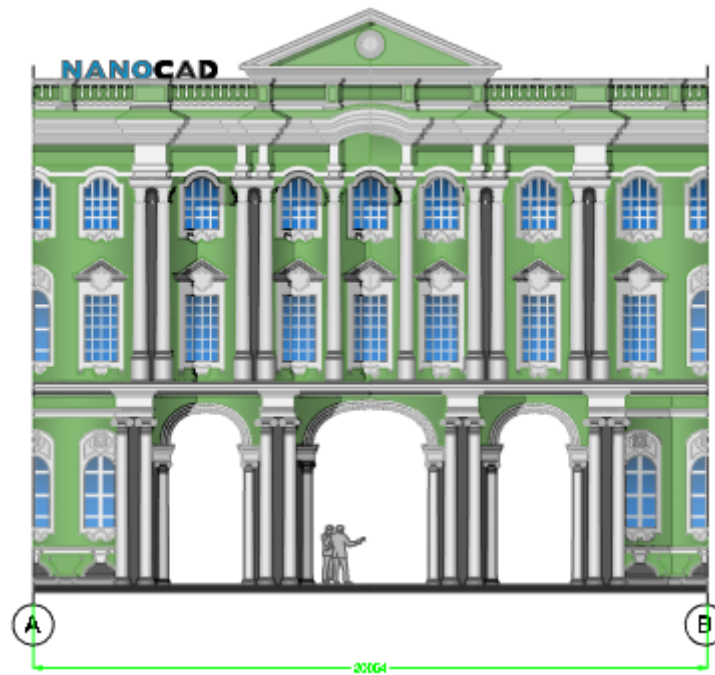

Fig. 32. Dimension
3.2. Add a dimension between axes: **Annotate – Dimension – Aligned** – enter dimension between two axes on the drawing (fig. 32):